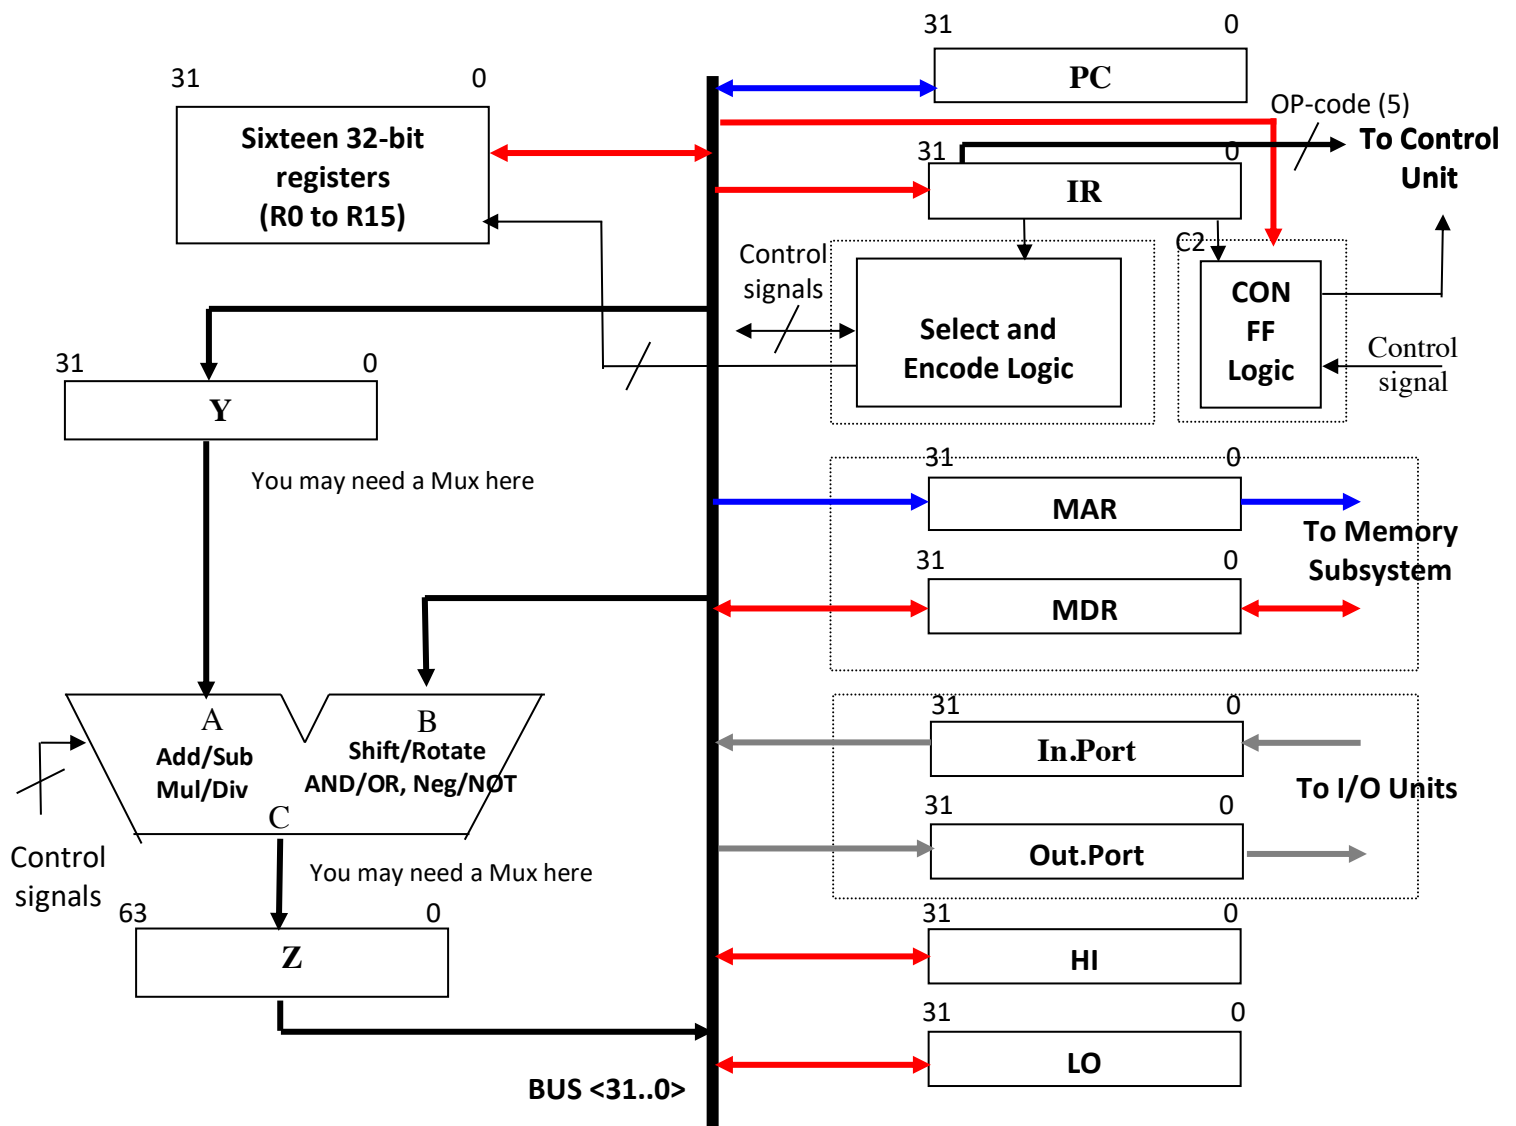

Figure 1: Simplified datapath
2.1 DataPath: Figure 1 illustrates a simplified single-bus Datapath for the Mini SRC (see Figure 4.2 on page 143 and Figure 4.3 on page 148 of the Lab Reader). As shown in Figure 1, the datapath consists of a 32-bit bus, BUS. The bus is responsible for transferring the information among different components of the system. There can be only one transaction at a time on a single bus. There are sixteen 32-bit registers *R0* through *R15* in the Mini SRC, as discussed in the CPU specification. There are also two dedicated 32-bit registers *HI* and *LO* for holding the result of a multiplication or a division operation. The 32-bit *Instruction Register*, *IR*, holds the current instruction. The 32-bit *Program Counter*, *PC*, points to the address of the next instruction after the execution of the current instruction. *PC* is incremented by 1 during the instruction fetch, using *IncPC* control signal in the *Arithmetic Logic Unit* (ALU). You may instead opt for a hardware incrementer outside ALU. In general, you are welcome to come up with your own ideas and design decisions during the entire CPU design project.
Design the datapath shown in Figure 1 (except for the “Select and Encode Logic”, “CON FF Logic”, “Memory Subsystem”, and “Input/Output ports” units) using Schematic Capture, HDL (VHDL or Verilog), or a mixed schematic/HDL in Quartus II design software. You are advised to follow the steps below when designing your datapath:
1. Design the registers R0 to R15, PC, IR, Y, Z, MAR, HI, and LO (see Figures 1 and 2).